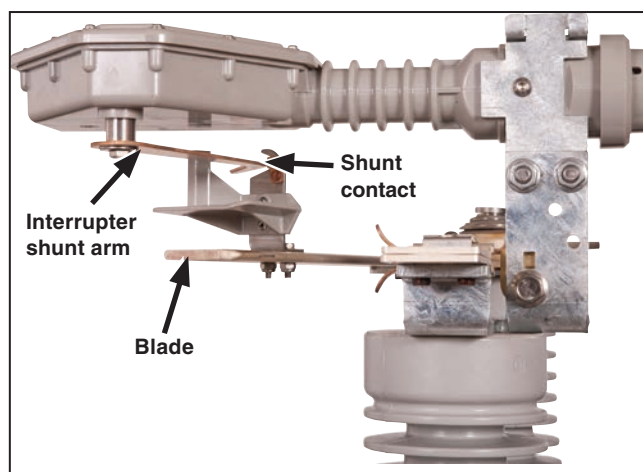

Figure 25. The shunt contact should engage the interrupter shunt arm on the copper-bronze contact surface of the shunt contact.
- (a) As the blades move towards the **Open** position, the operating cam shunt contact should engage the interrupter shunt arm on the copper-bronze contact surface of the shunt contact. See Figure 25.